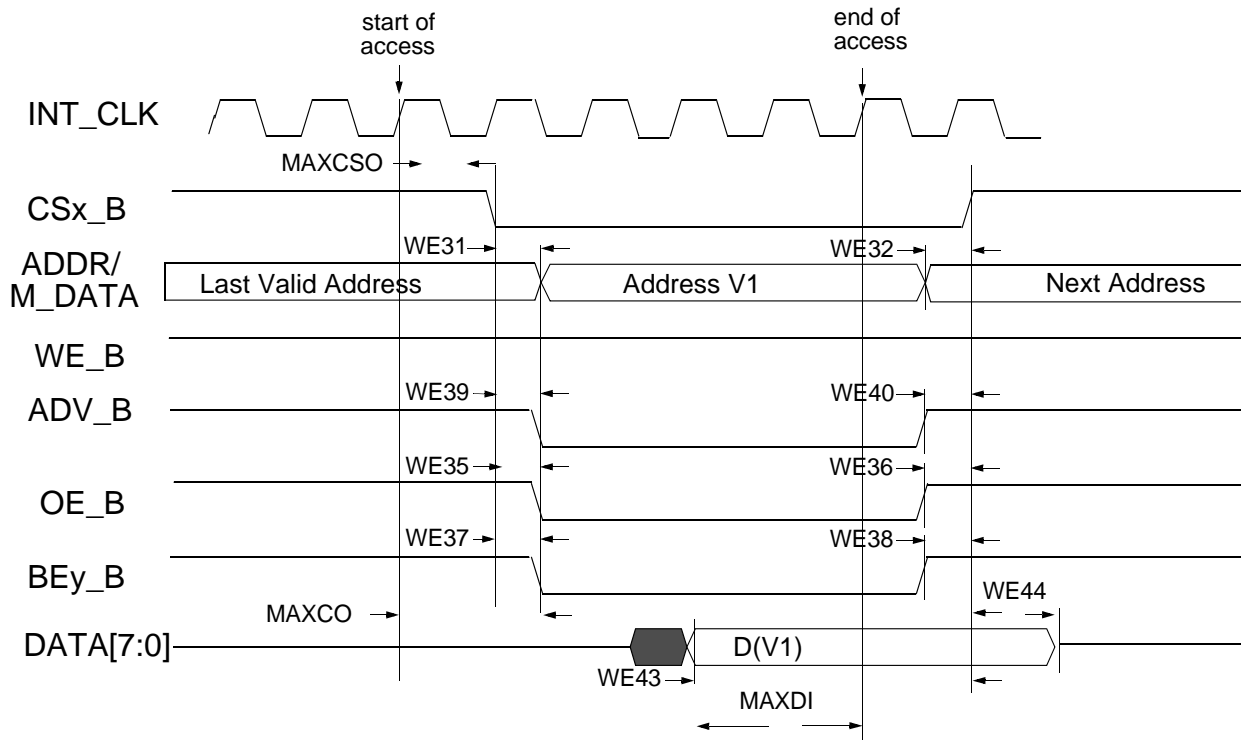
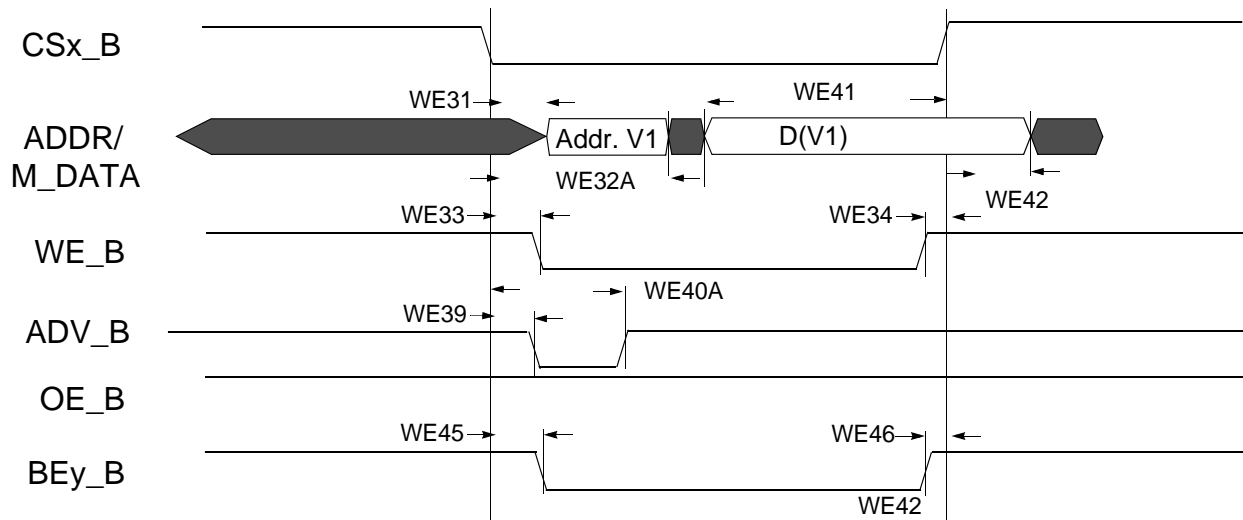
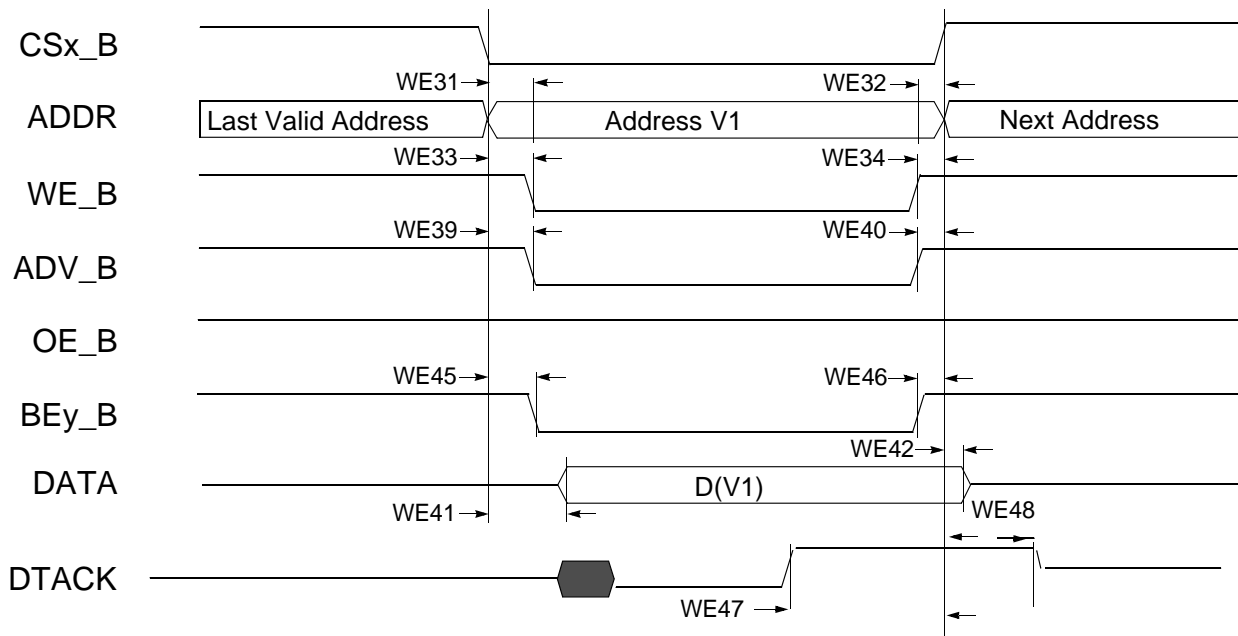

Figure 22. Asynchronous Memory Read Access (RWSC = 5)
Figure 25. Asynchronous A/D Muxed Write Access
Figure 27. DTACK Write Access (DAP=0)
Figure 22 through Figure 27, and Table 39 help to determine timing parameters relative to the chip select (CS) state for asynchronous and DTACK EIM accesses with corresponding EIM bit fields and the timing parameters mentioned above.
Asynchronous read and write access length in cycles may vary from what is shown in Figure 22 through Figure 25 as RWSC, OEN, and CSN is configured differently. Refer to i.MX53RM for the EIM programming model.